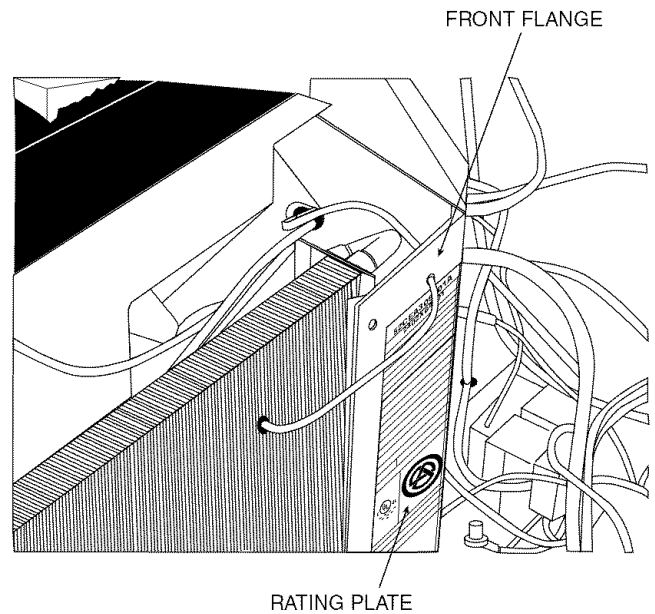

Fig. 9 — Location of Indoor Coil Freeze Thermostat (IFT) with Discharge Deck Removed
- Push sensor through hole in front flange above the rating plate. See Fig. 9.